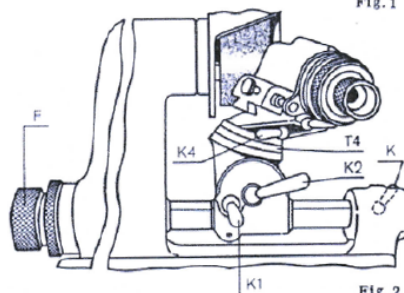

Fig. 2
2. Release clamping lever *K2*; using scale *T2*, set cutter at desired back rake angle; tighten clamping lever *K2*, see Fig. 2.
4. While continuously rotating the collet bearing through 180° (back and forth between the stops), advance the cutter towards the grinding wheel by means of fine adjustment screw *F*. This will produce the desired back rake angle in a positively controlled operation (see Fig. 2).